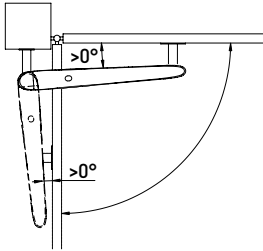

Figure 6. Required drive position relative to a leaf
- When a gate is closed or open, the drive should be at an angle to a leaf (fig. 6).